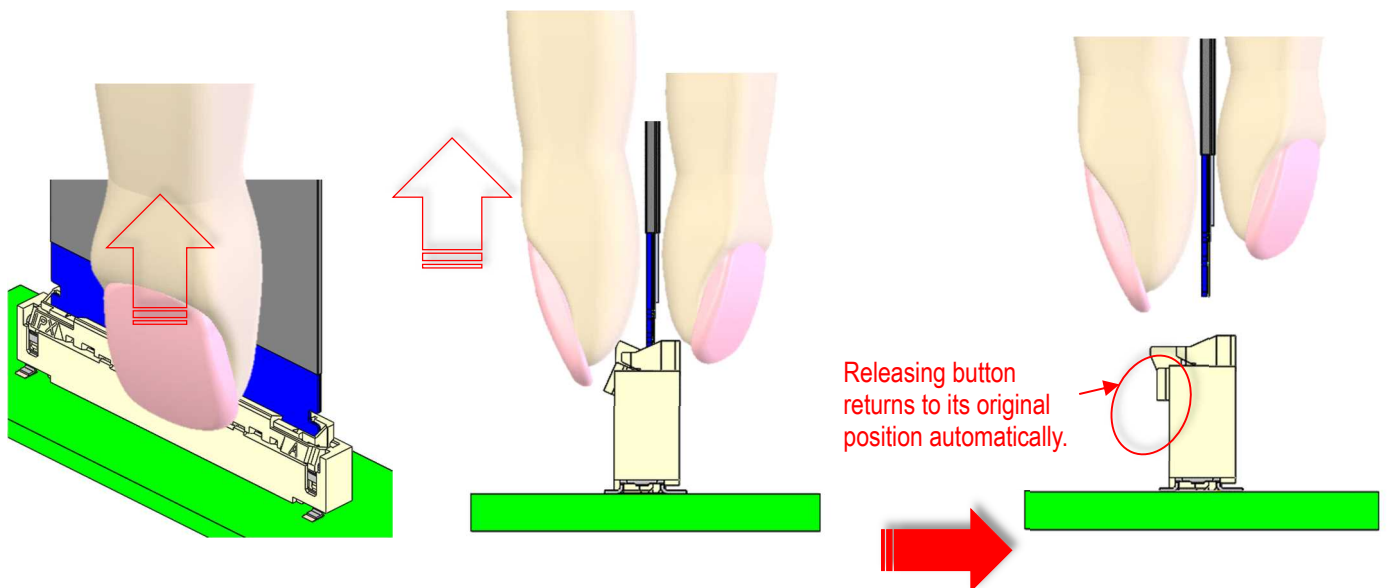

Fig.3-2 FFC/FPC withdrawal method 2
- ② Withdraw FFC/FPC from the connector vertically while pushing the release button as shown as Fig.3-2.